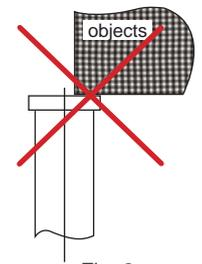

Fig. 2
- Never adjust the safety valve (18), it has been set at the factory to prevent overloading. Components 10, 11, 18, 19, 20, 21 are all part of the overload protection.
- Never lift on the edge of jack's head (Fig. 2). The load shall always be centered to the jack's centerline